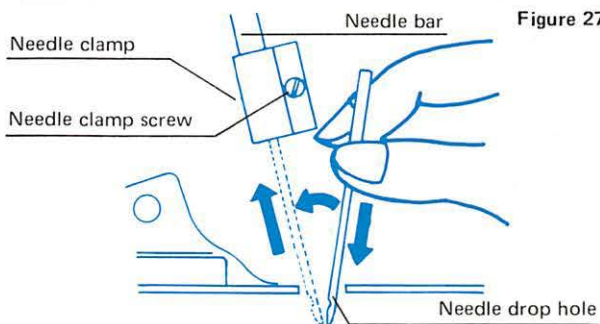
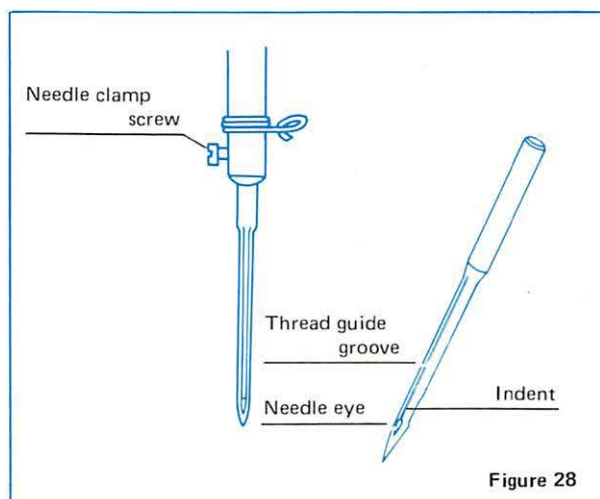

Figure 27
Figure 28
- (1) For needle installation, first turn the fly-wheel so as to raise the needle bar up as far as it will go.
- (2) Next, loosen the needle clamp screw (Figure 27), insert the tip of the needle into the needle drop hole (Figure 27) on the presser first, and secondly insert the needle completely deep into the needle hole of the needle clamp.
- (3) Firmly tighten the needle clamp screw.
- For the direction of inserting the needle, it is requested that the needle be set in such a way so that the thread guide groove is facing the front when facing the machine as shown in Figure 28.